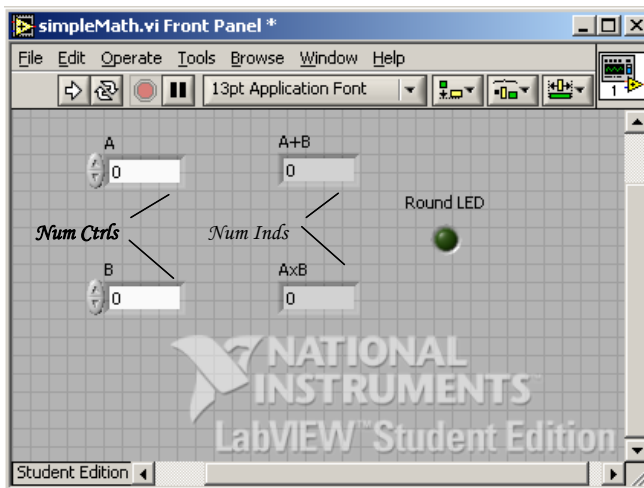

Figure 1A: Front Panel
Step 1: Launch LabVIEW to create the following front panel (Figure 1A below). Right-clicking the mouse will bring up a menu of graphical elements (NI calls them controls). One can then click and drag the desired control into the front panel (gray area).